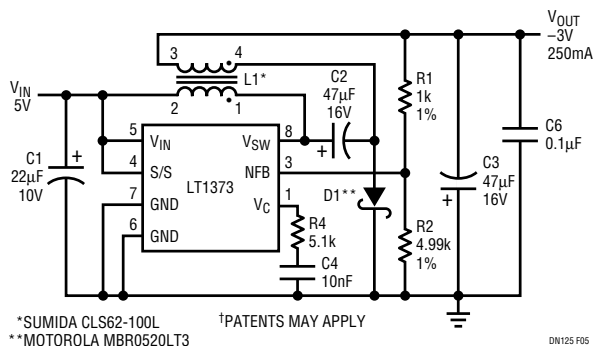

Figure 5. Low Ripple 5V to $-3V$ "Cuk" Converter
The latest generation of disk drives has adopted magneto-resistive (MR) read-write heads. These operate with a low noise bias supply of $-3V$. Figure 5 shows a Cuk-configured LT1373 capable of generating $-3V$ at 250mA. This converter topology exhibits inherently low output ripple and noise and